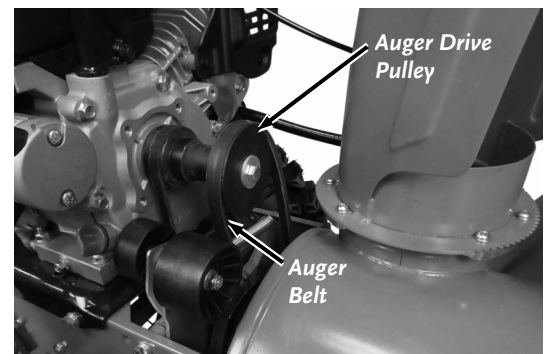

Figure 55
13. Tighten the Locknuts to secure the left side of the Frame to the Auger Housing (**Figure 55**).
- Roll the Auger Belt off the front of the Engine Drive Pulley to make room for removal of the Traction Drive Belt (**Figure 55**).